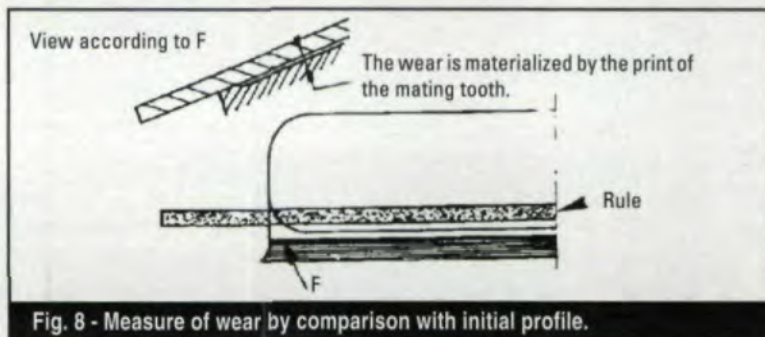

Fig. 8 - Measure of wear by comparison with initial profile.
- Check the value of the distance over the  $K - n$  ( $n = 1$  or  $2$ ) in such a manner as to tangent the profiles near the dedendum in the place where the teeth show the greatest wear (Cf. Fig. 8).
backlash calculation of the gear in operation. In certain cases, the wear on the flank dedendum may be obtained from the print left by the mating wheel by direct measurement with gauges (See Fig. 8). Generally we can classify as normal wear the following surface aspects: